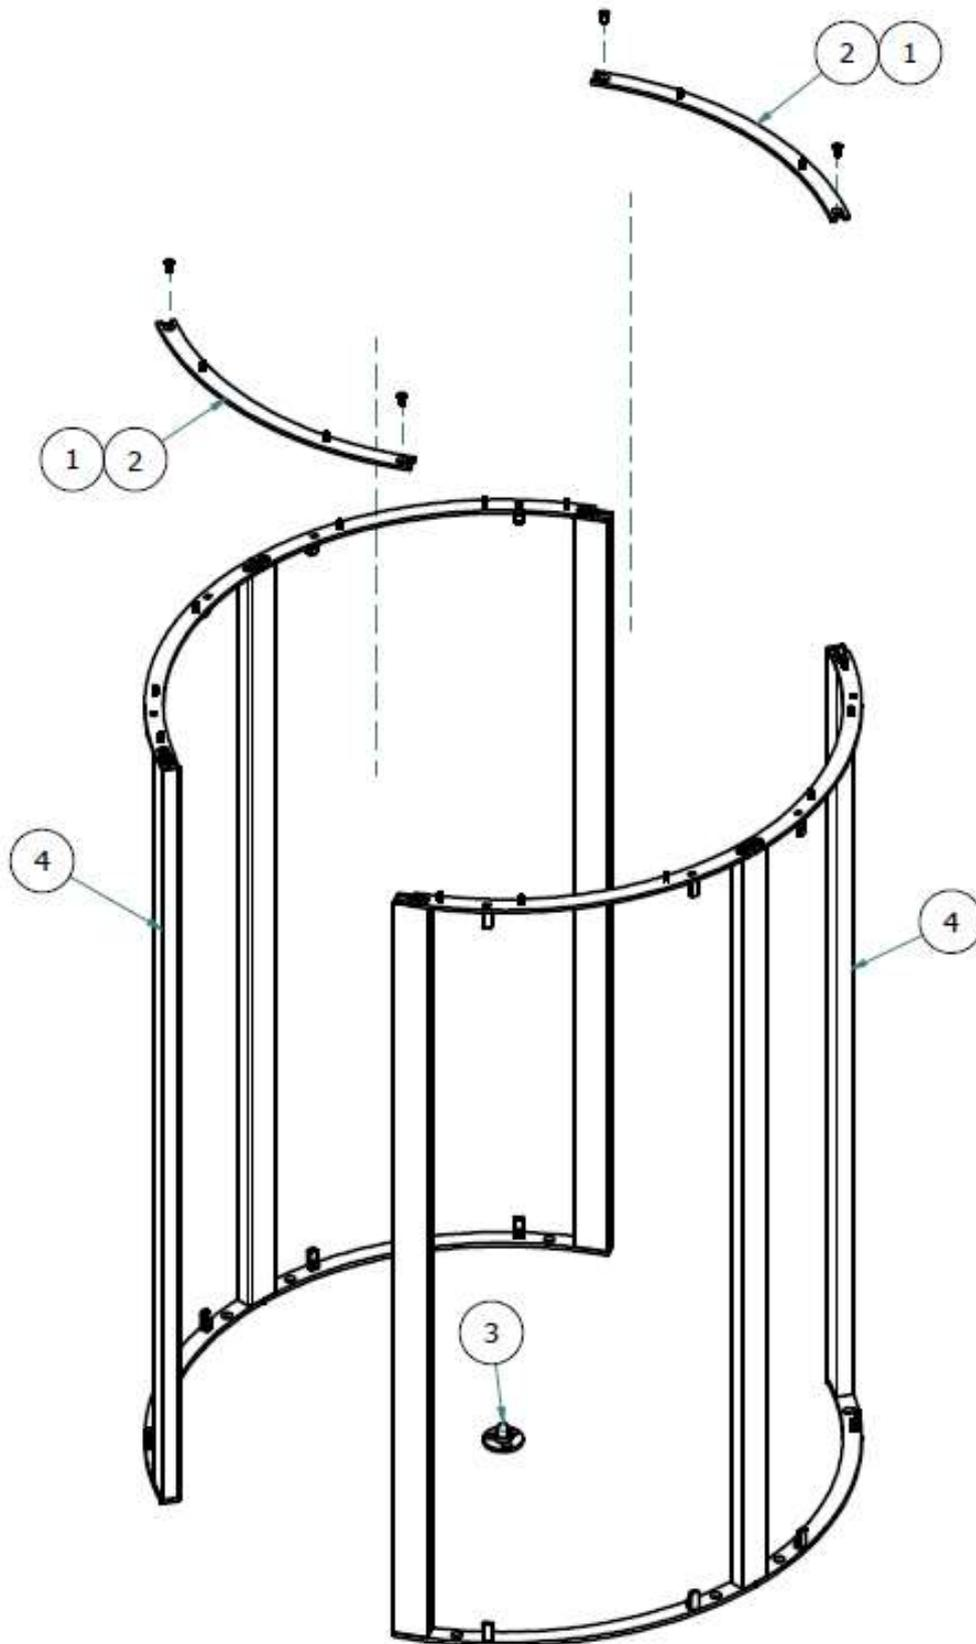

Figure 9: STEP 2 - Frame assembly
- 5.6. Connect the two side halves with the top ring 3 and the countersunk screws as shown in *Figure 9*.